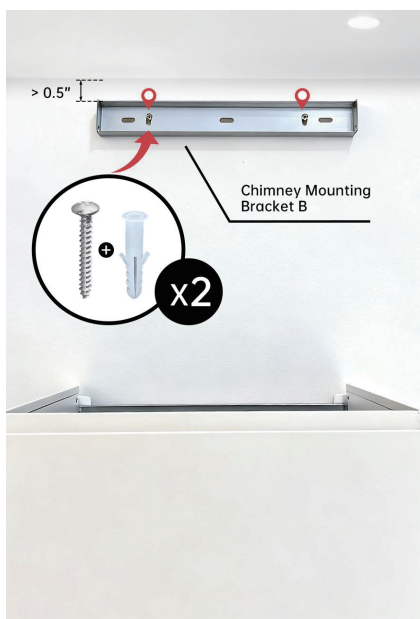

Figure 8
- Install the **upper chimney mounting bracket B** on the wall, leaving **at least 0.5 inch (13 mm)** clearance from the ceiling. Figure 8